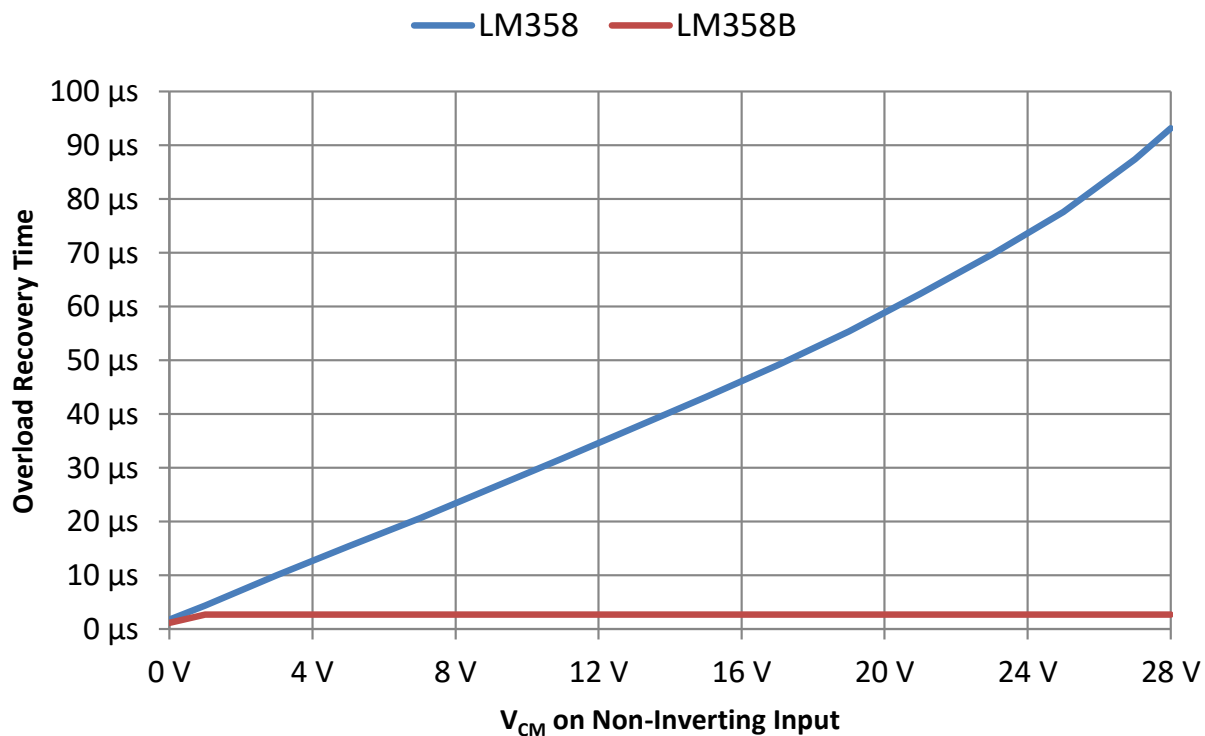
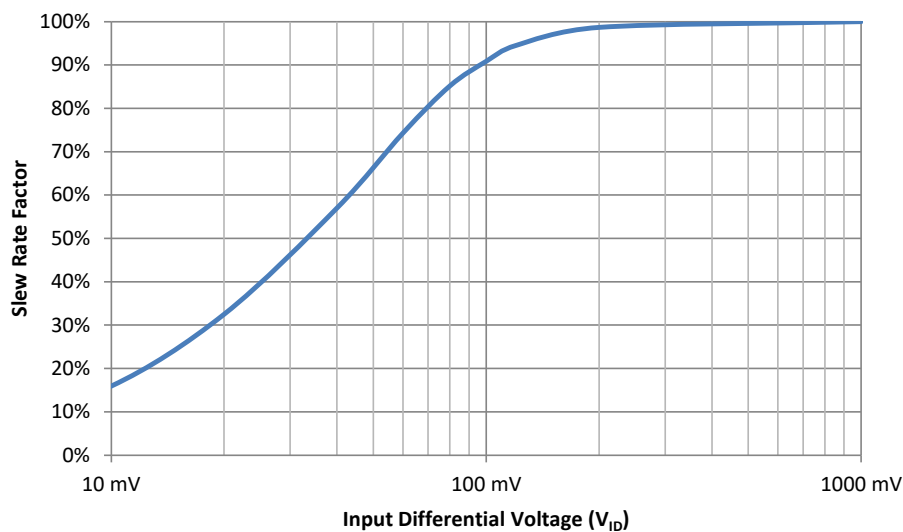

Figure 25. Overload Recovery Time from  $V_{OL}$  vs  $V_{IN+}$ ,  $V_{ID} = 200 \text{ mV}$ ,  $V_{CC} = 30 \text{ V}$
**Figure 27. Overload Recovery Multiplier vs Input Differential Voltage ( $V_{ID}$ )**
Overload recovery time is analogous to comparator propagation delay. Overload occurs when an op amp's input voltage difference is large enough such that the output reaches either the  $V_{OL}$  or  $V_{OH}$  level and the output no longer changes with variations in the input. Some internal node voltages will continue to change even though the op amp output is not changing. The overload condition ends when the input voltage difference is reduced to a point where the op amp returns to a linear operating region or the input voltage polarity is reversed. After the overload condition is removed, there is a finite time delay before the output can change from the  $V_{OL}$  or  $V_{OH}$  level. This delay is the overload recovery time. The data sheet does not specify an overload recovery time parameter. The recovery time when the output is at the  $V_{OH}$  level is approximately 2  $\mu\text{s}$ , regardless of the common mode voltage. The recovery time when the output is at  $V_{OL}$  varies with the common mode voltage present at the non-inverting input as seen in Figure 25.
In addition to the overload recovery time of 2  $\mu$ s from the  $V_{OH}$  state or the overload recovery time in Figure 25 from the  $V_{OL}$  state, the input voltage difference applied during the input recovery time is also a factor in the actual recovery time. One can multiply the internal factor time (2  $\mu$ s or the time from Figure 25) by the scalar value in Figure 27 to get the final expected recovery time.  $V_{ID}$  is the voltage applied while waiting for the recovery time.
For example, assume the LM358 output is in a  $V_{OL}$  state, the non-inverting input is 10 V, and the inverting input is 10.05 V. If the inverting input suddenly drops to 9.98 V, then the output will start increasing after approximately 90  $\mu$ s. The input common mode was 10 V, which makes the overload recovery time 30  $\mu$ s, per Figure 25. The input difference is 10 V – 9.98 V = 20 mV which makes the multiplier 300%, per Figure 27. Multiply the two values; 30  $\mu$ s  $\times$  300% = 90  $\mu$ s. Later when the inverting input suddenly rises back to 10.05 V, the output will start decreasing after approximately 3  $\mu$ s. The output was  $V_{OH}$ , so the recovery time is 2  $\mu$ s. The input difference is 10.05 V – 10 V = 50 mV, which makes the multiplier 150%, per Figure 27. Multiply the two values; 2  $\mu$ s  $\times$  150% = 3  $\mu$ s.
Slew rate (SR) limits the output rise and fall times, which are defined as  $(V_{OH} - V_{OL})/SR$ . Slew rate, as specified in the op amp data sheet, is applicable for large differential input voltages. Dedicated comparator parts, on the other hand, may have much smaller differential input voltages. Note that the slew rate is reduced when the input difference voltage is small. Figure 27 shows that an input difference of 100 mV provides a slew rate 90% as fast as the data sheet setup result and a 10-mV input difference voltage has a slew rate that is only 16% of the data sheet slew rate.